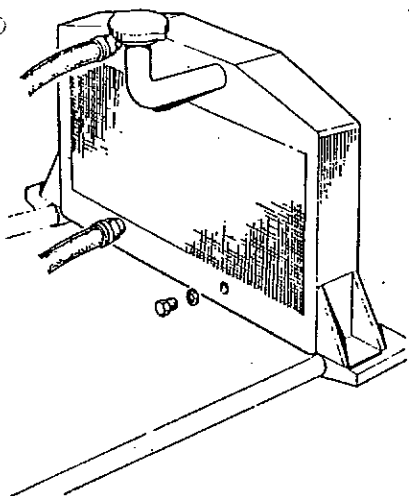

Fig. 12. Radiator Drain Plug
2. Remove radiator drain plug (fig. 12)